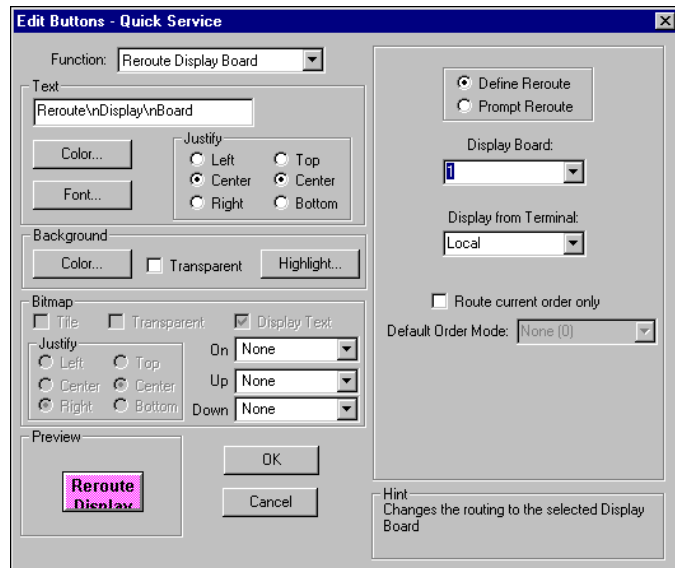

Figure 5-100 Reroute Display Board Function Button
1. Select **Reroute Display Board** from the **Function** drop-down list. Additional options display, as shown in Figure 5-100: